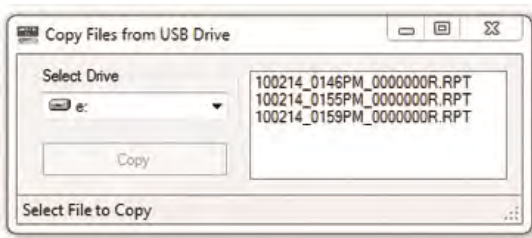

Fig. 4
7. Highlight the report and press Copy. See Fig. 4. Close the Copy File window when complete.